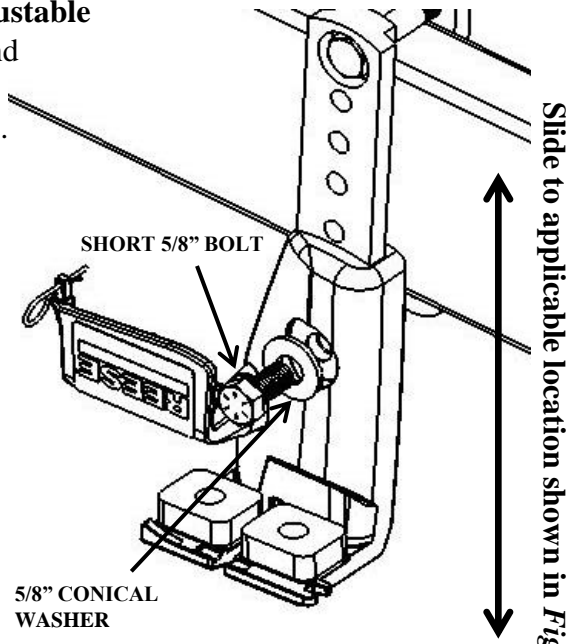

Fig. 7
- 10. Insert the short 5/8" bolt through a conical washer, **Adjustable Frame Bracket** mounting hole and into the **T-Bar**. Hand tighten the bolt. (See Fig. 7)